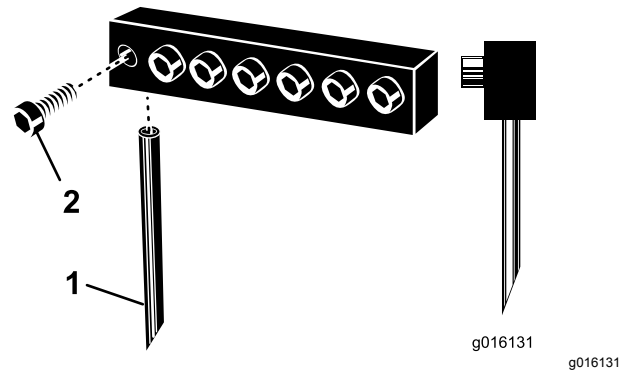

Figure 30
3. Loosen the clamping bolts and remove the previously used tines (Figure 30).
Note: Hollow coring tines should be positioned with the ejection slot to the rear while the solid tines should have the tine tip angle facing the machine (Figure 30).